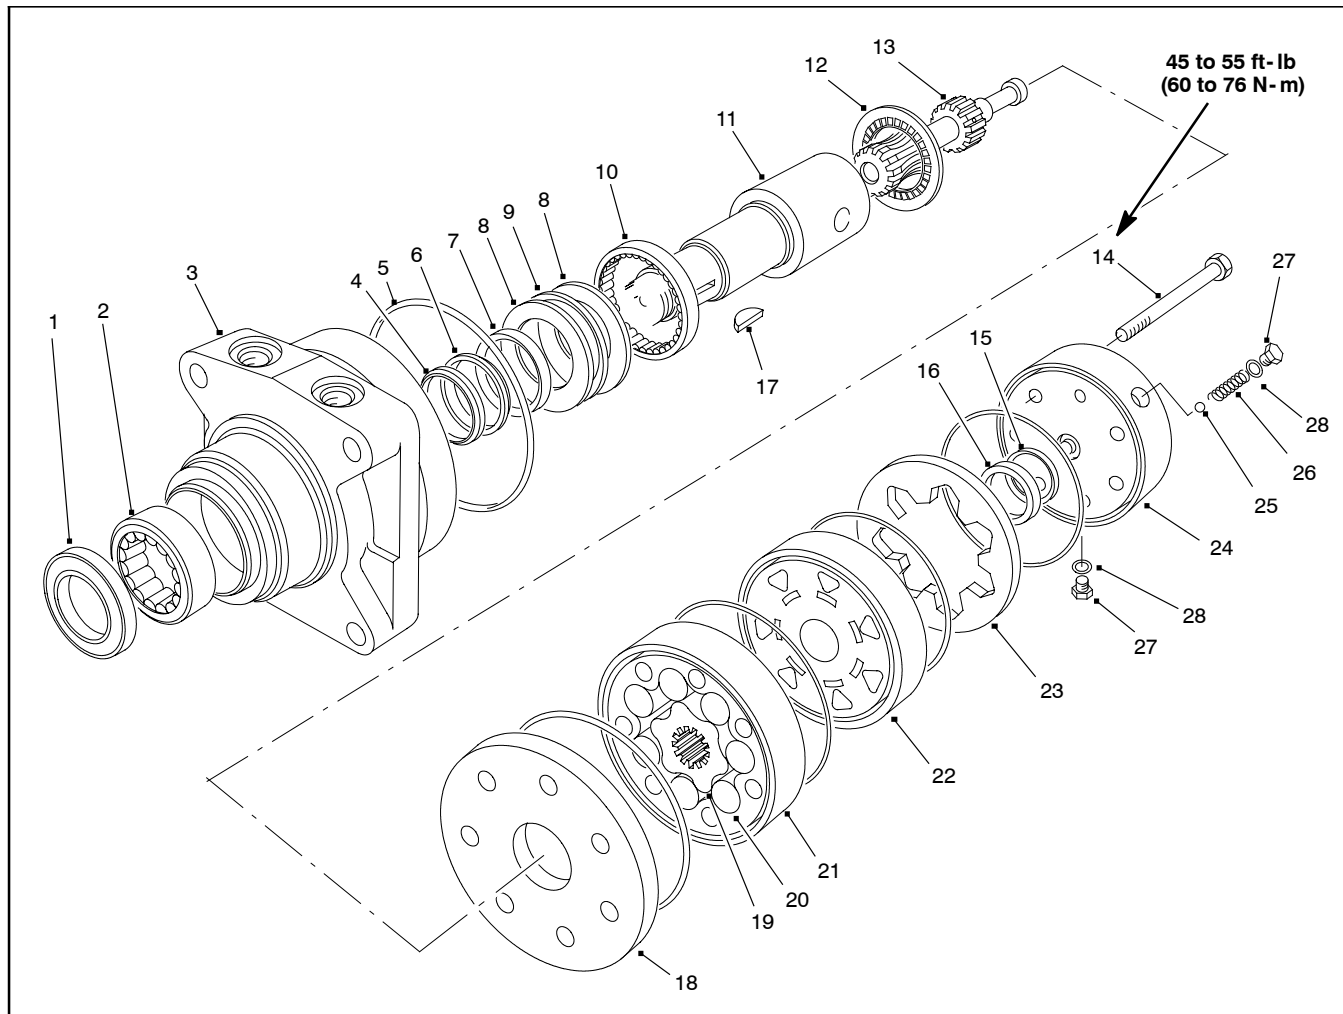

Figure 83
**Note:** The wheel motor illustrated in Figure 83 is the rear motor. The three wheel motors are identical in construction except for some minor differences. The right front and rear wheel motors have reverse timed manifolds, and the front left motor does not. The end cover of the rear motor has a check valve consisting of a ball and spring, and both front motors lack this feature.